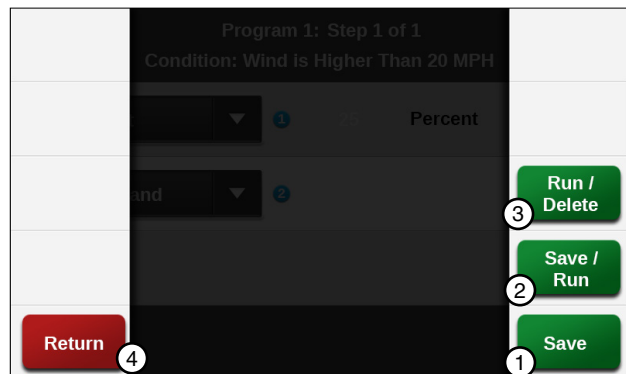

Figure 119-4 1. Save 2. Save/Run 3. Run/Delete 4. Return
5. Finish the program by selecting one of the following. Refer to Figure 119-4.